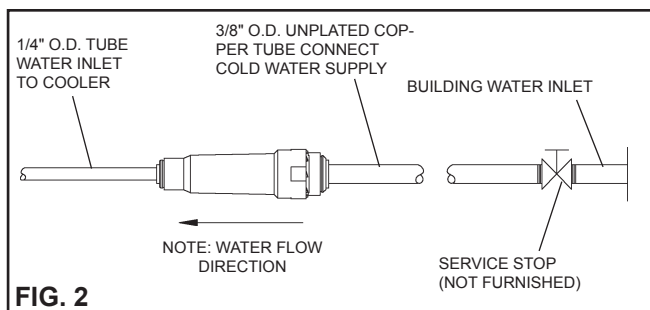

FIG. 2
11. Connect fountain to supply line with a shut-off valve and install a 3/8" unplated copper water line between the valve and the cooler. Remove any burrs from outside of water line. Push the tubes straight into the fittings until they reach a positive stop, approximately 3/4" (See Fig. 2). DO NOT SOLDER TUBES INSERTED INTO PLASTIC FITTINGS AS DAMAGE TO THE O-RINGS MAY RESULT.